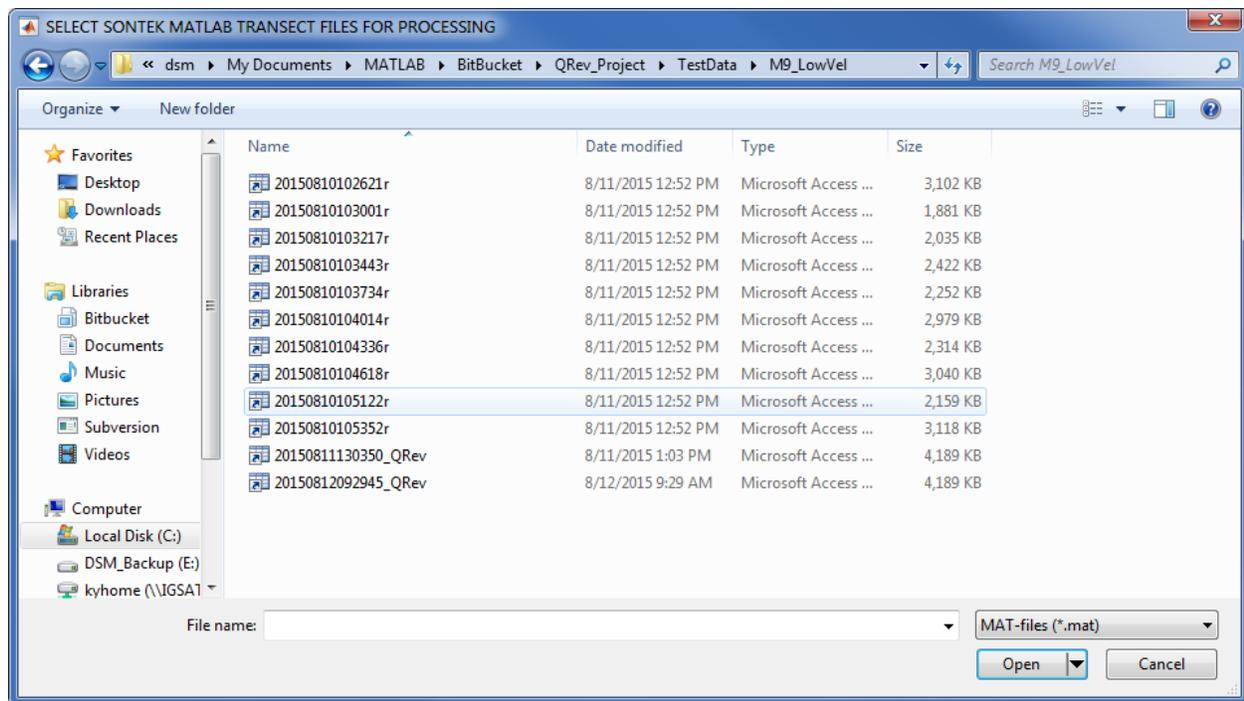

Figure 6. File selection dialog.
Clicking the appropriate data type will open a file selection dialog (fig. 6).
For RSL measurements, moving-bed tests and transects must be exported from RSL using the MATLAB export feature. These files must be output using east, north, up (ENU) coordinates and bottom track (BT), GGA, or VTG track reference. The files selected by the user from the Open File window shown in figure 6 should include the *.mat files for all transects in the measurement (Windows commonly does not display the file extension and considers *.mat files to be Microsoft Access Table Shortcuts.). QRev will automatically load associated moving-bed tests, system tests, and compass evaluations provided they follow the standard RSL naming and file storage conventions. Moving-bed tests filenames must begin with “Smba_” or “Loop_” and be exported to the MATLAB format (*.mat). The system tests and compass calibration must be stored in subfolders of the measurement folder and be named System Test and CompassCal, respectively.